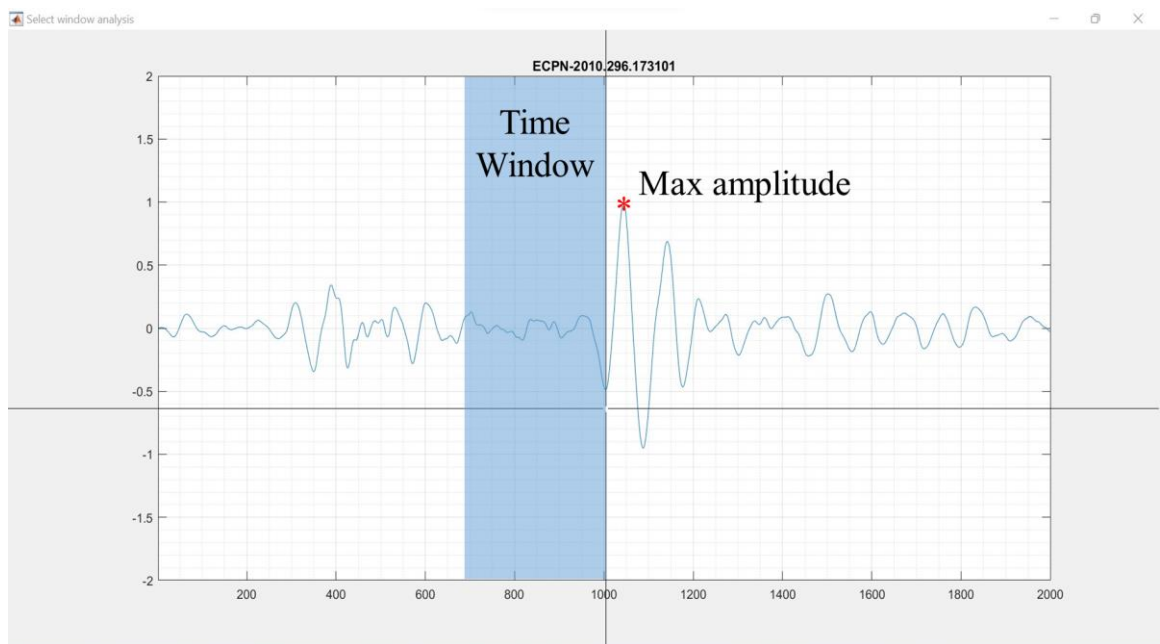

Fig.20. Example of the manual selection of the analysis window (2.5 seconds) on LP waveform.
- The supplementary routines. You can choose different way to process the data by clicking on the pop menu. The “Continuous” mode applies the Semblance method over time windows sliding along the traces. The Semblance grids computed on all analysis windows are averaged obtaining one composite grid for each Input trace. The “Auto-Discrete” mode rather performs the method over one temporal window, that is selected on the basis of an automatic routine. In the latter, the upper limit of the window is retrieved through the picking of a “down” phase onset starting from the time position of the maximum amplitude of the signal (see the example in the Fig. 20). The “Man-Discrete” mode is very similar to the last, except for the
picking routine. In fact, you can set manually the upper limit of the analysis window through the dedicated interface (Fig. 20). In this latter case, you can move the cursor to your desired location and press a mouse button allowing to identify the respective time coordinate.
- The supplementary routines. You can select different modalities for the data processing by clicking on the pop menu. The "Continuous" mode performs the method over time windows sliding along the signals. The Radial Semblance valued obtained for all temporal windows are averaged into unique grid. The "Auto-Discrete" mode rather uses one analysis window selected through an automatic routine that returns its upper limit. This process consists in the picking of a "down" phase onset from the temporal position of the maximum amplitude of the signal (see the example in the Fig. 20). The "Man-Discrete" mode is very similar to the last, except for the picking routine. In fact, the upper limit of the analysis window is set through the dedicated interface (Fig. 20), in which you can move the cursor to identify the desired x-coordinate.